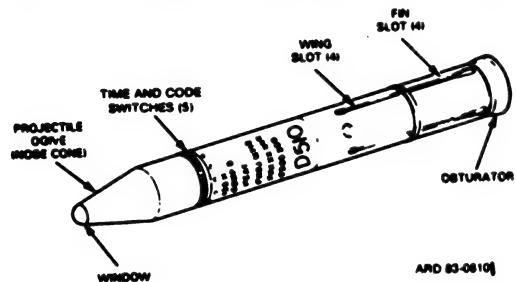

Figure 211.42. Projectile, 155mm, HEAT, M712.
a. M712 cannon-launched, guided projectile (fig. 211.42) is a terminally guided system launched from the M114A2 howitzer into a ballistic trajectory. During flight, the target is illuminated by a laser beam from a laser designator. An onboard computer continuously refines the terminal trajectory and provides guidance to the control surfaces, causing the round to home in on stationary or moving hard-point targets. The M712 projectile is fired in the same manner as conventional projectiles.